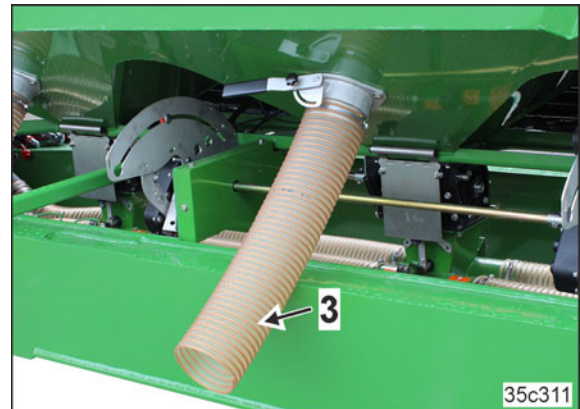

Fig. 56
3. Route the emptying hose (Fig. 56/3) into a collection vessel.